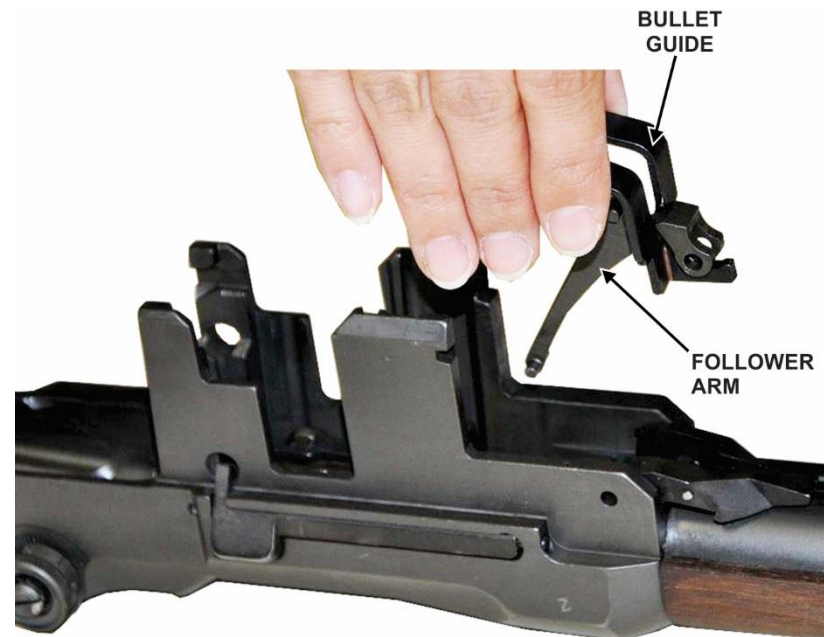
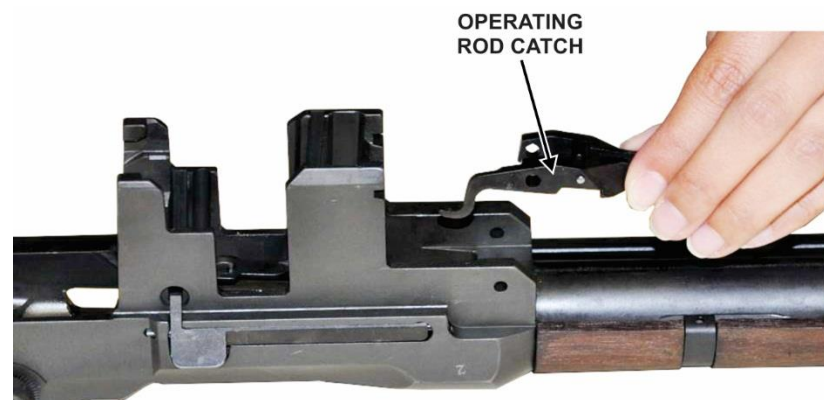

Figure 17. Bullet guide and follower arm removal
Figure 18. Operating rod catch removal
- 3) Grasp the bullet guide and follower arm and lift them out of the receiver (fig 17). Then lift the operating rod catch and lift it out of the receiver (fig 18).